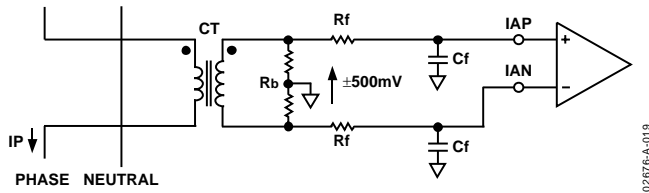

Figure 19. Typical Connection for Current Channels
Figure 19 shows a typical connection diagram for the current channel (IA). A current transformer (CT) is the current transducer selected for this example. Notice the common-mode voltage for the current channel is AGND and is derived by center tapping the burden resistor to AGND. This provides the complementary analog input signals for IAP and IAN. The CT turns ratio and burden resistor  $R_b$  are selected to give a peak differential voltage of  $\pm 500$  mV at maximum load.